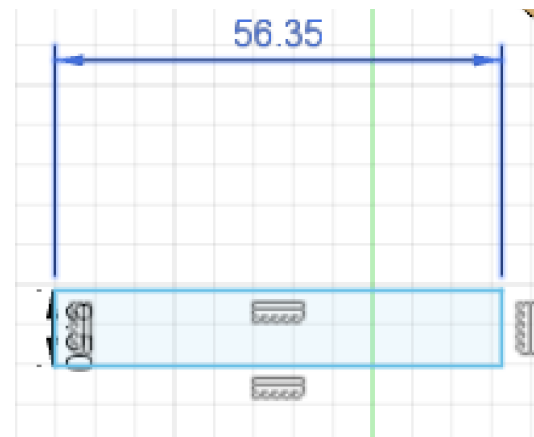

Figure 3: One of the four rectangular sections after cutting, shown in drawing form to show dimensions (9.5 mm by 56.35 mm).
2. Cut the ends off of two tongue depressors, and proceed to cut the rectangular sections in half. You should have four rectangular pieces now (See Figure 3 in Appendix C for Dimensions of Pieces in mm).